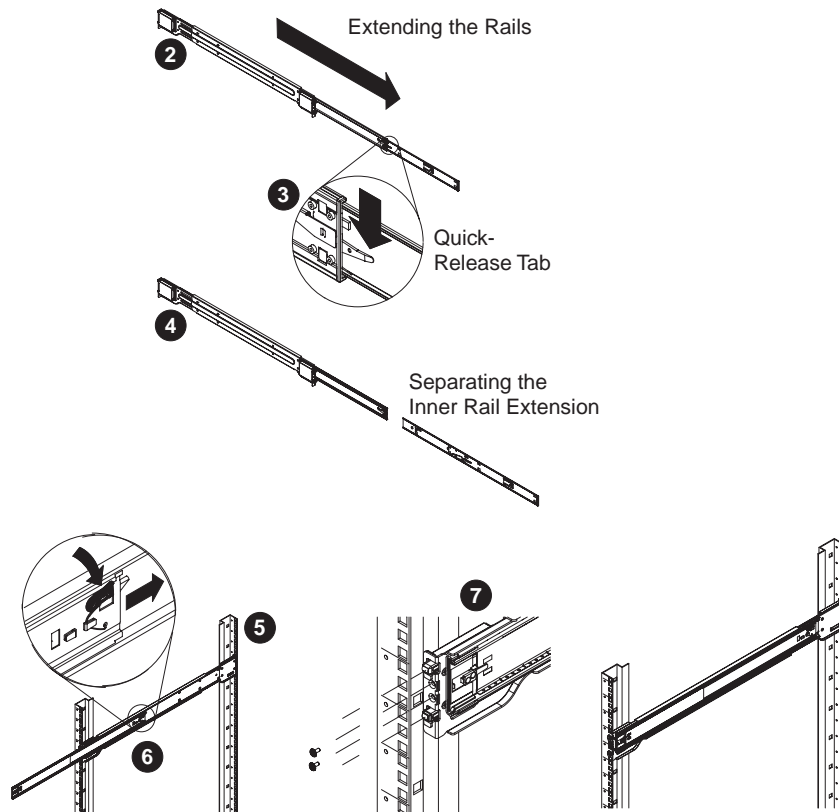

Figure 2-4 Outer Rack Rail Extension Example
4. Pull out and adjust both the short and long brackets to the proper distance so that the rail can fit snugly into the rack, reference Figure 2-4 on page 15.